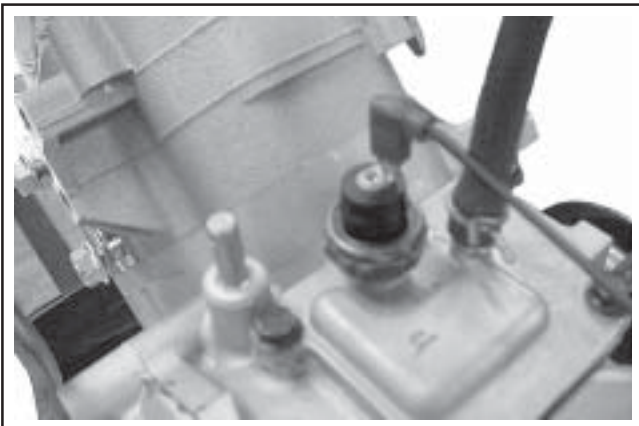

**Figure 9-23. Removing Carburetor from Engine.**
4. Remove the carburetor, throttle linkage and governor lever as an assembly. See Figure 9-23.